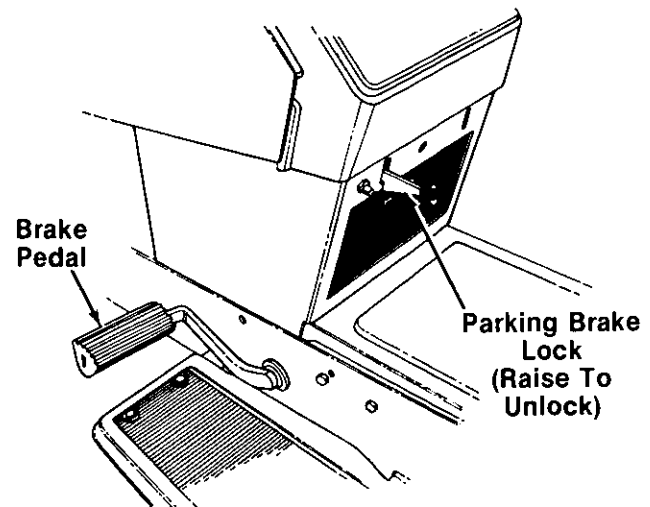

FIGURE 11.
1. Depress the brake pedal, release the parking brake lock, and let the pedal up. See figure 11. Move the throttle lever to the position where the engine operates best for the load to be handled.